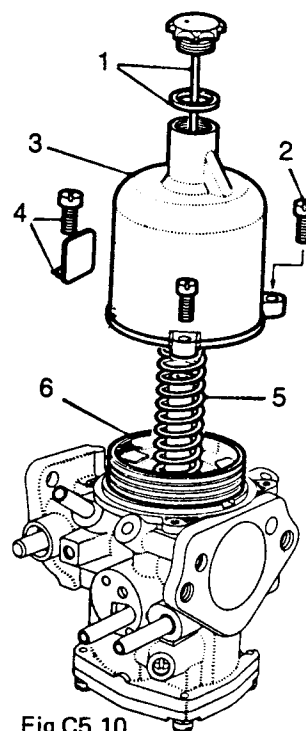

Fig C5.10
- (21) Refer to Fig C5.10. Replace the piston assembly (6) and piston spring (5).
- (22) Fit the chamber assembly (4) vertically to the body without tilting it.
- (23) Secure with the suction chamber retaining screws (2) not forgetting to replace the identity tag (3).
- (24) Fill the piston damper housing with the correct grade of oil to the specified level and replace the damper (1) and washer.